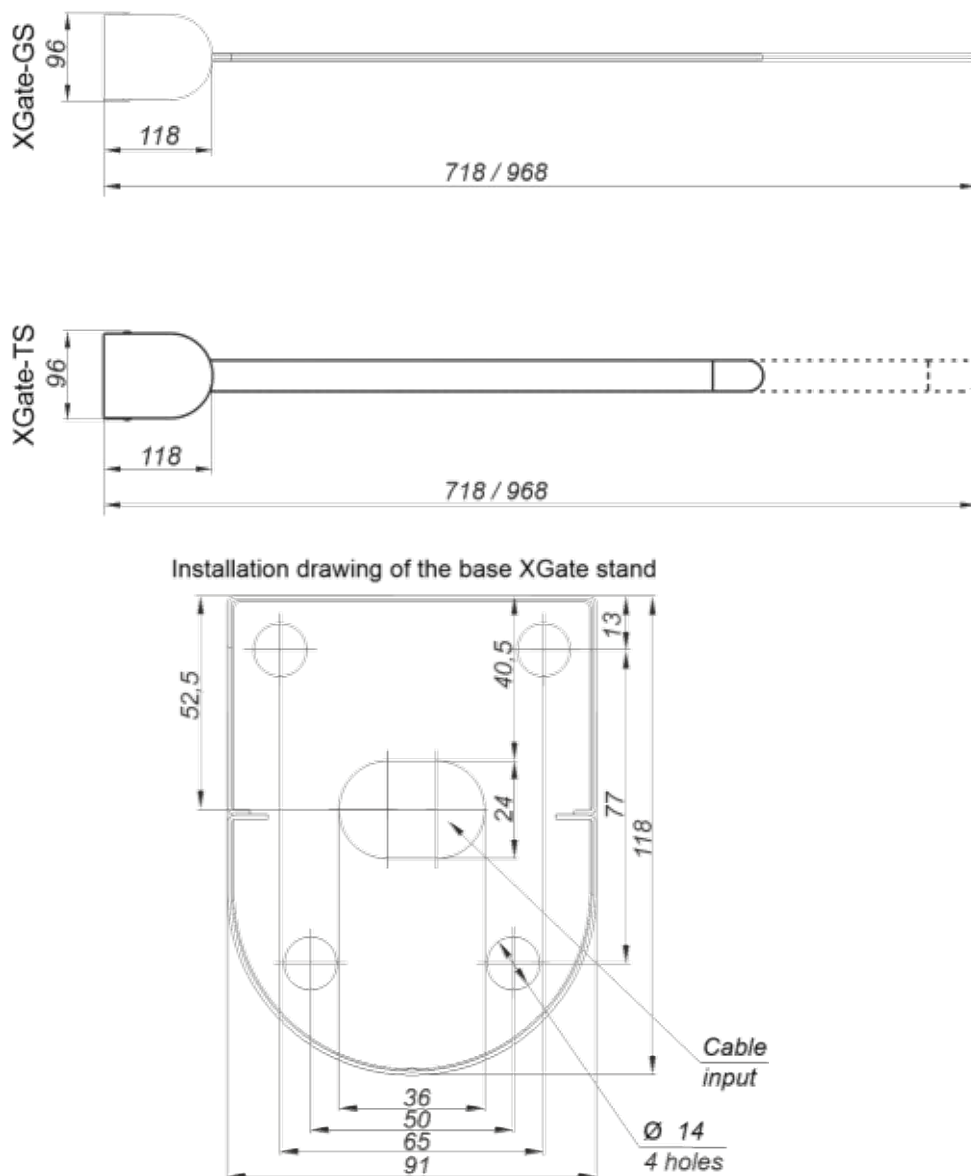

Fig.16 – Gate type turnstile installation marking
- 4) The turnstile fixation holes to be marked on the area surface according to Fig. 16. The turnstile itself can be used as a template, when installed upright on installation site.
- 6) When cables to be laid under the floor surface, then a cable duct to be prepared in the floor leading to the turnstile rack cable entry area. The cable entry area layout is shown in Fig.16 diagram.
8) For access to fixing and technological openings of the base and terminal blocks of the **XGate-** tripod turnstile (Fig. 16) is required: